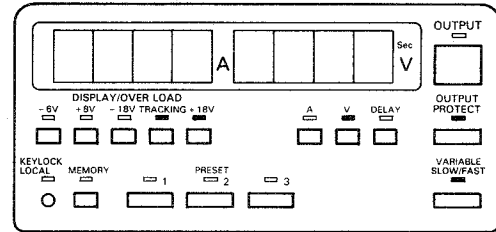

Fig. 10
- 1) Set the LEDs as shown is Figure 10.
Figure 10 indicates the case where positive voltage level is used.